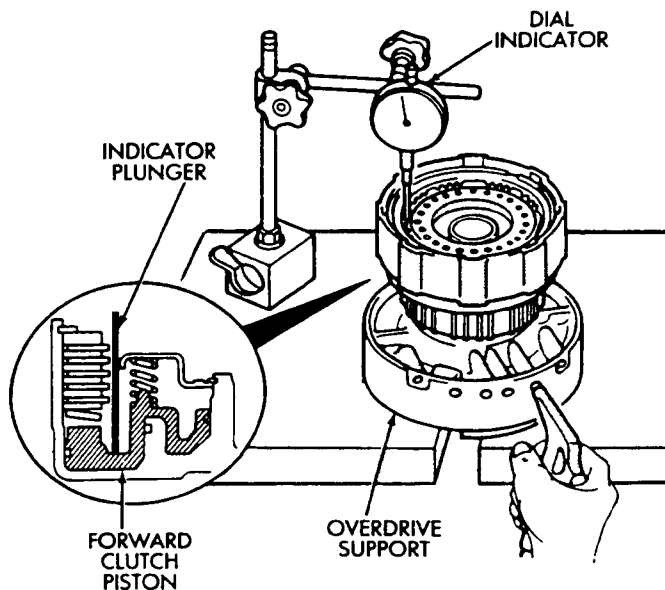

Fig. 3 Checking Forward Clutch Piston Stroke Length
- (4) Mount dial indicator on clutch drum. Position dial indicator plunger against clutch piston (Fig. 3).